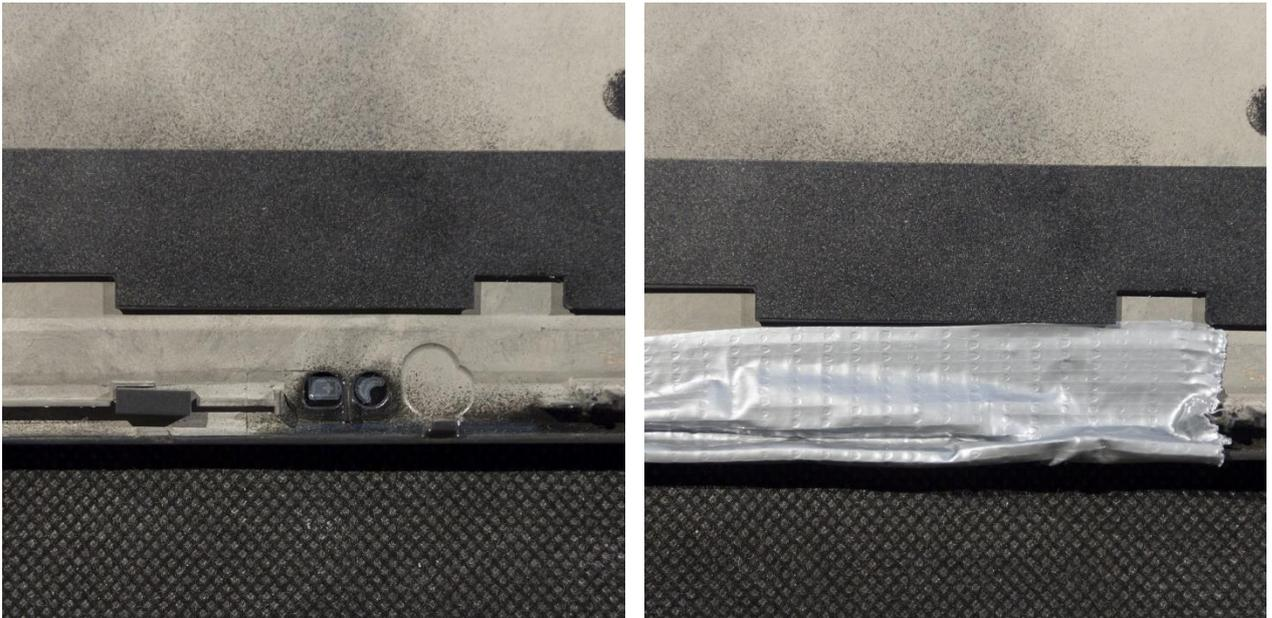

Figure 16. Power status indicator area
3. Cover the power status indicator area with a tape to avoid debris sticking to the inner surface of the icon plate (see figure 16);